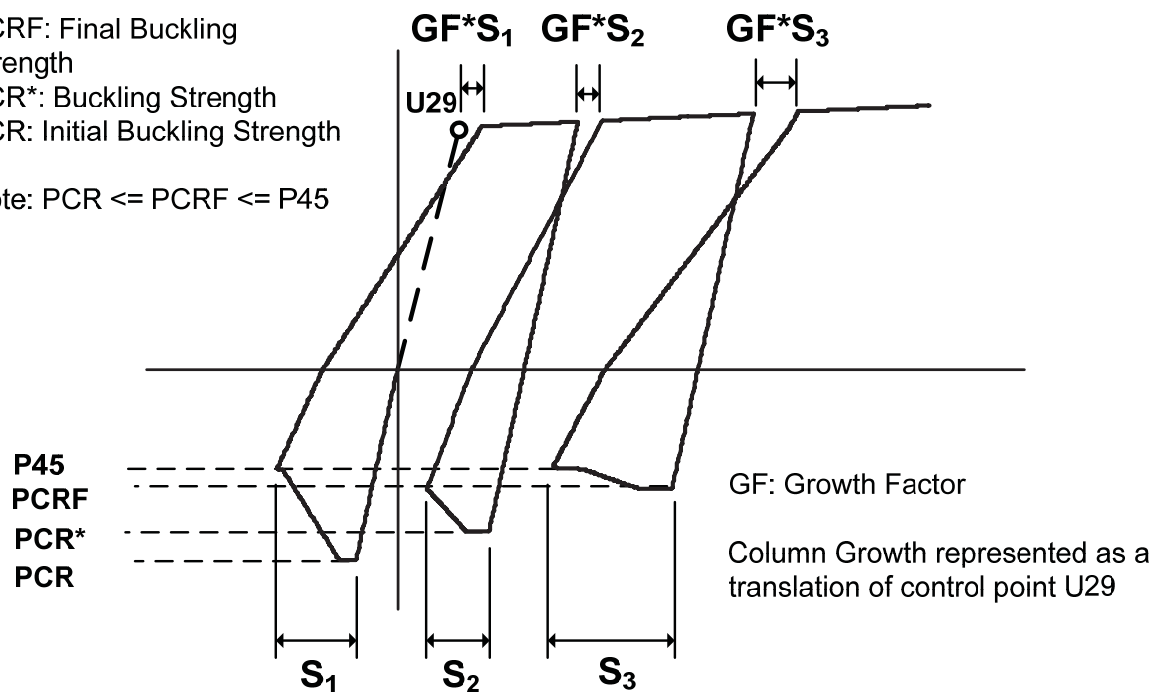

Fig. F26 Strength Reduction and Column Growth
- (b) A reduction in the compressive strength dependent on inelastic cycling. In the brace lengthening from state 4, the compressive strength for the next cycle will be the state 4 compressive stress at which the brace lengthening occurred. On entering state 5 the compressive strength will be reduced in future cycle to final compressive strength PCRf. Users could select PCRf to limit the amount of strength reduction (see Fig. F26).
- (c) An inelastic lengthening of the brace at tensile loads less than the uniaxial yield force after inelastic compressive cycling (column growth). The algorithm will translate the control strain U29 a ratio of the amount of inelastic shortening in the previous cycle (see Fig. F26). Users could select GF (growth factor) to simulate column growth phenomenon.